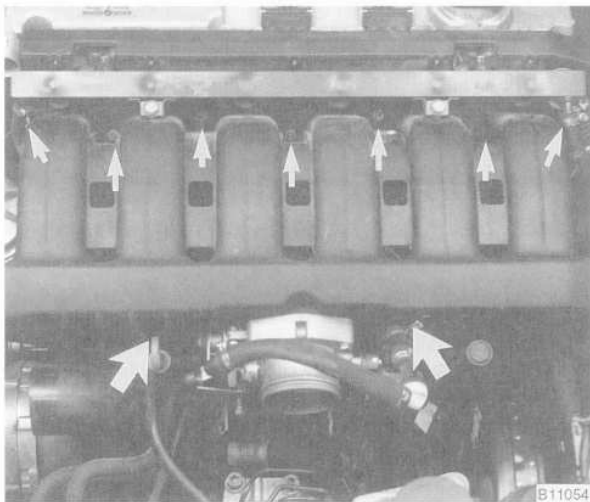

Fig. 15. Intake manifold nuts and support bracket bolts (arrows).
18. Remove the intake manifold from the engine by removing the seven mounting nuts from above and the two support bracket bolts from below. See Fig. 15.